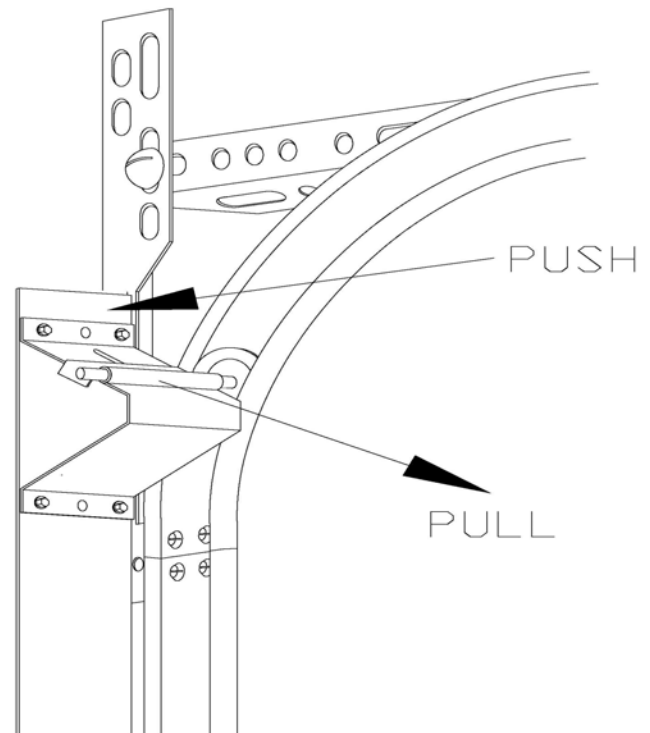

Figure 16
Step 17: With the track installed, aligned, and secured the top section can now be properly adjusted. Loosen the bolts holding the slide on the top corner brackets on the top section. With the slide loose, pull the roller and the slide on the top corner bracket toward you and push the section toward the jamb. Holding these parts in this position tighten the slide bolt. See figure 16.